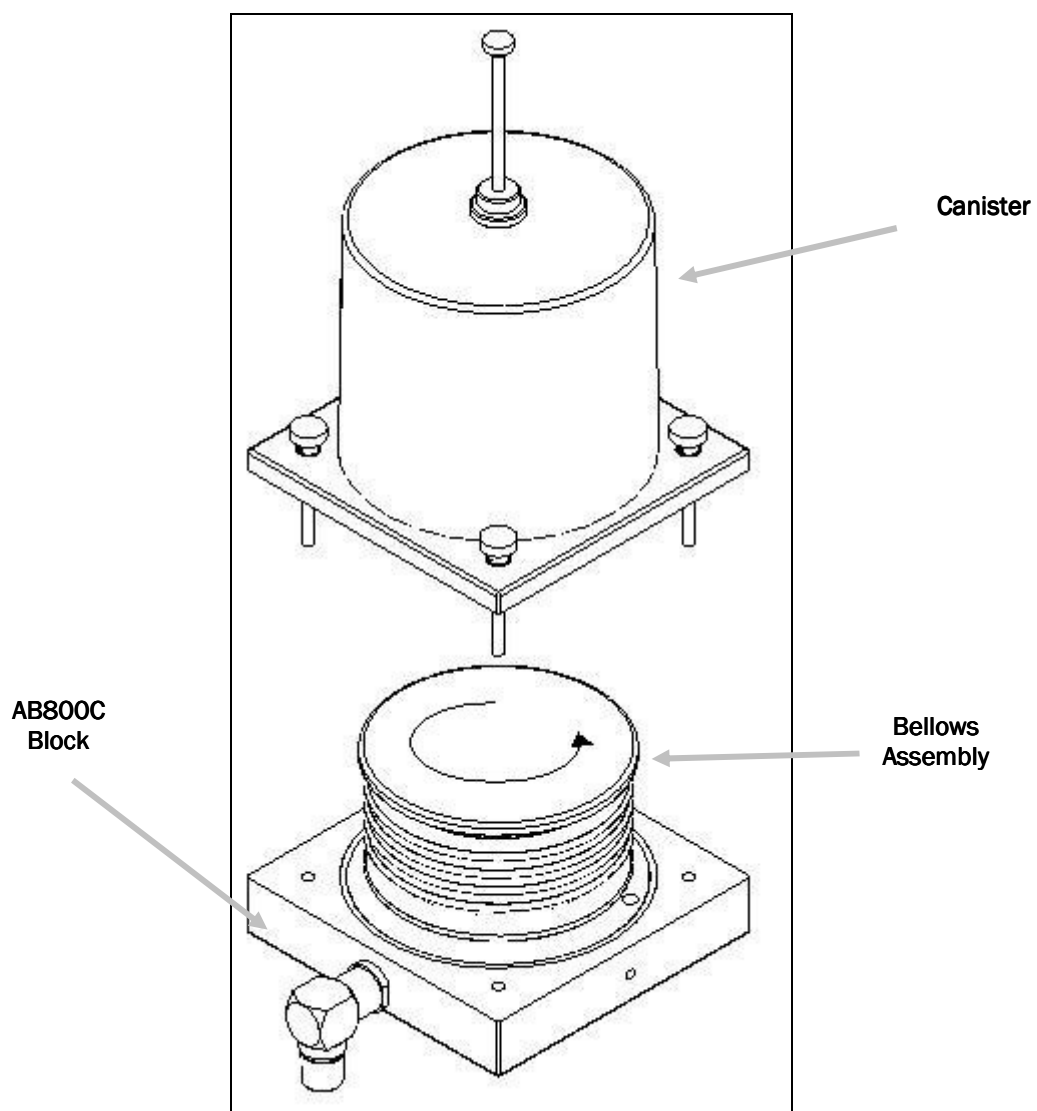

Figure 38: Removal of bellows canister and bellows bag assembly
2. Remove the bellows assembly by rotating in counter-clockwise as shown in Figure 38.